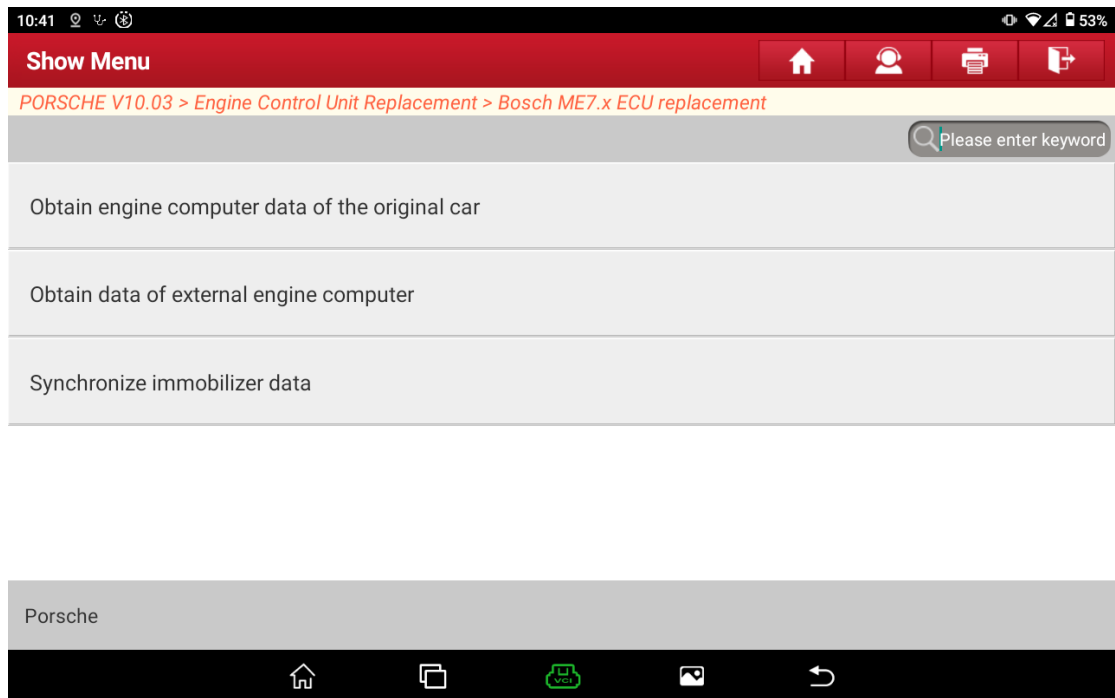

Figure 2 Submenu
2. Choose [Engine Control Unit Replacement] > [Bosch ME7.x ECU Replacement]. The current menu is shown in Figure 2.